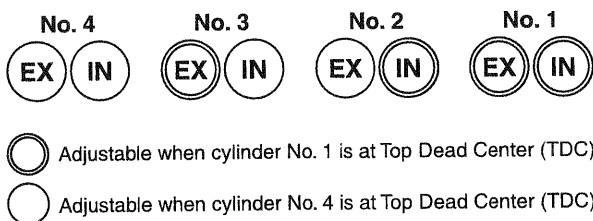

Figure 8: Valve Sequence
4. Measure the valve clearance for each of the valves (shown as in Figure 8).
6. Rotate the crankshaft in clockwise direction one full turn to set cylinder No. 4 to top dead center (TDC). Adjust the remaining valves (shown as in Figure 8).